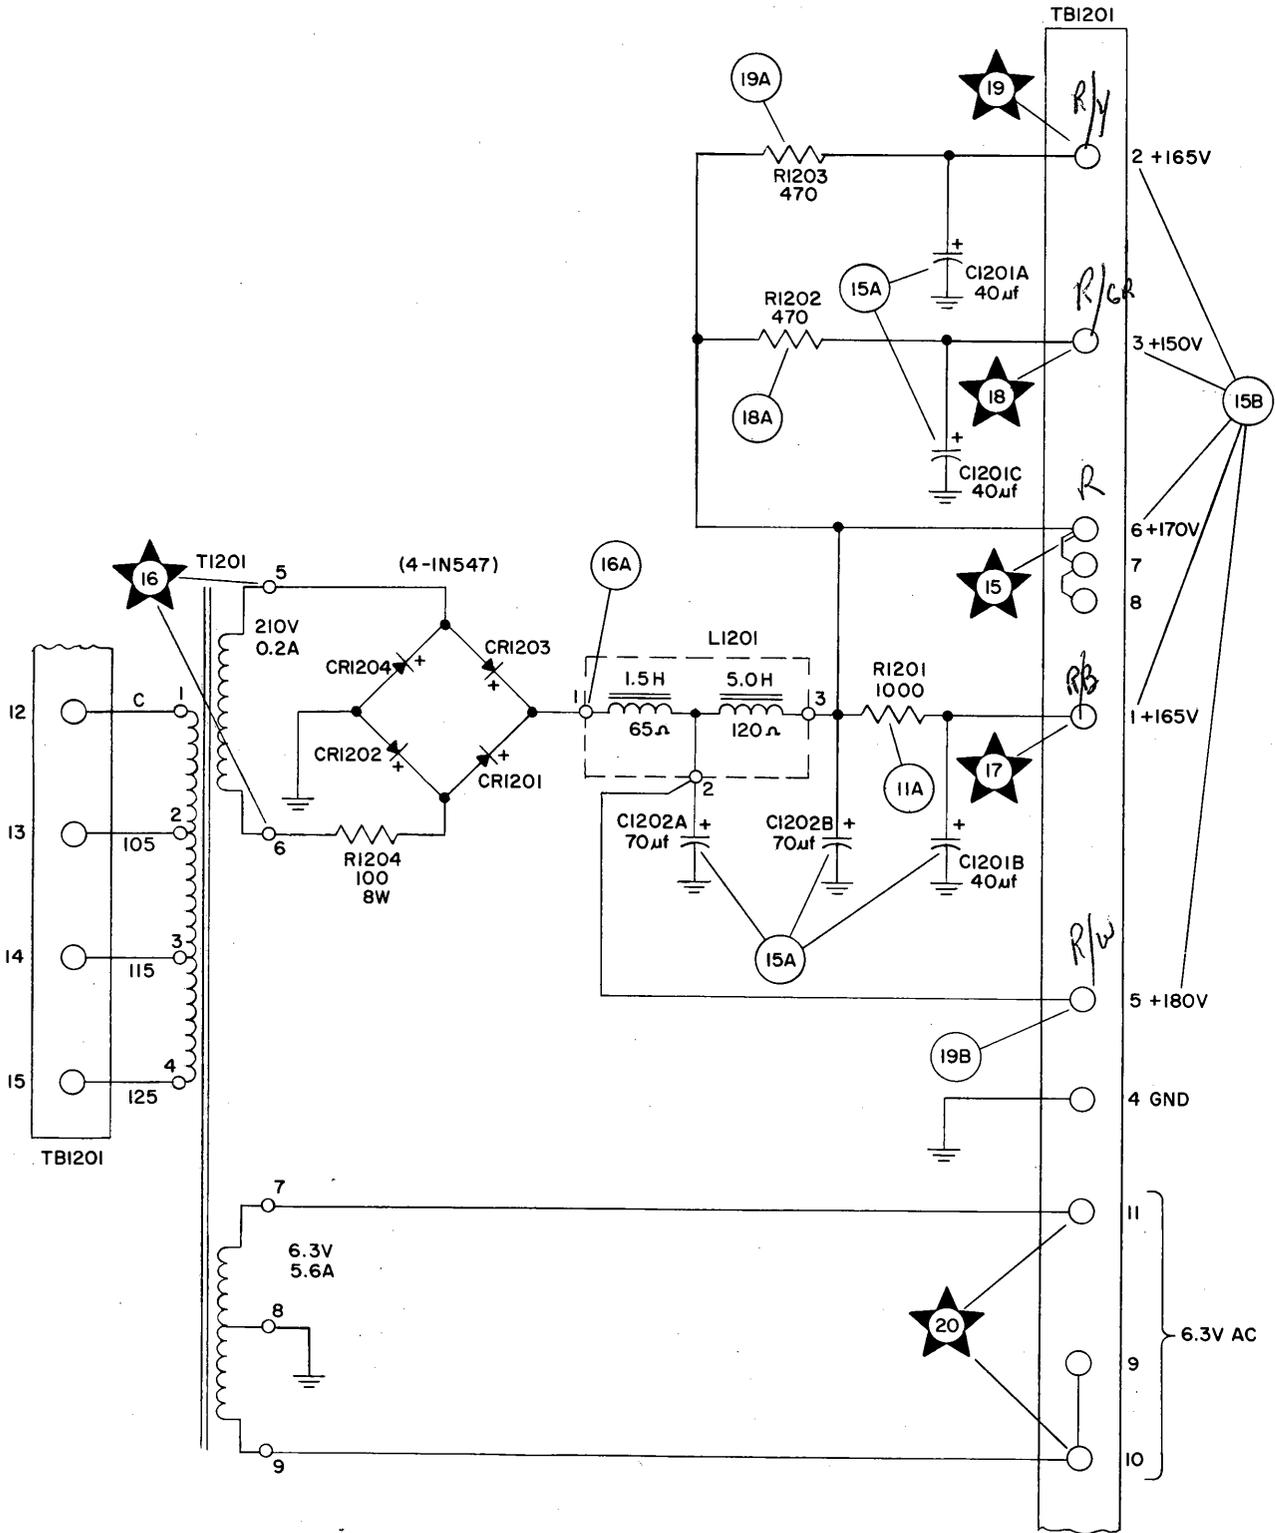
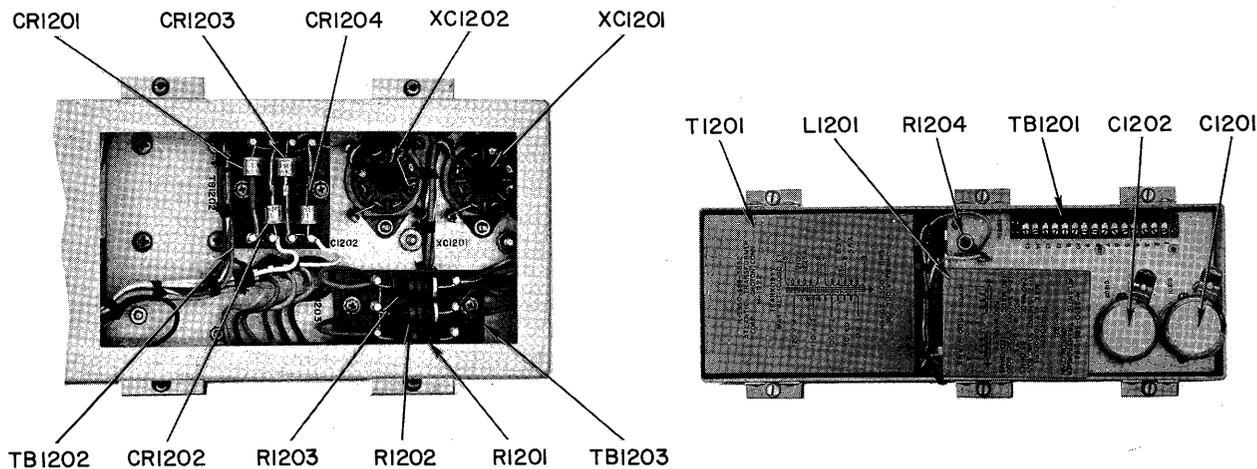

Figure 5-5. Demodulator Power Supply, Functional Schematic Diagram
Figure 5-6. Demodulator Power Supply, Location of Parts
a. FUNCTION.—The demodulator power supply provides plate and filament voltages for the operation of the AM, USB, and LSB detector-amplifier circuits of the receiver. Faulty operation of the power supply will cause erratic operation or will disable the receiver completely. Figure 5-5 is a functional schematic diagram; figure 5-6 shows the location of parts.
- (1) Cable connections at TB651, TB652, and TB1201
- (2) Clamping of plug-in capacitors C1201 and C1202 in their sockets.